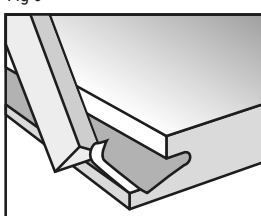
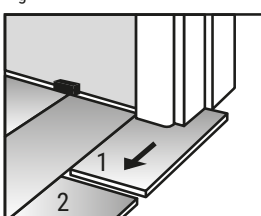

Fig 10
Fig 11
The subfloor needs to be dry to a maximum moisture content of 75% Relative Humidity (RH) or 65% RH when there is underfloor heating. Ensure that you use a 1000 gauge damp proof membrane sheet, overlap joints by 250mm and apply tape (ideally a plastic tape i.e. Sellotape - not a paper based tape) to seal the joint. Ensure the membrane finishes above the floor level (Fig 10).
Adhesive should not normally be used when installing this click system flooring. However, it is sometimes easier to remove a part of the lock system (Fig 10) so that the flooring can be tapped together. PVA adhesive should be applied to the face of the groove so that the joint remains strong. This method is particularly helpful when installing a board under the door frame into doorways (Fig 11).